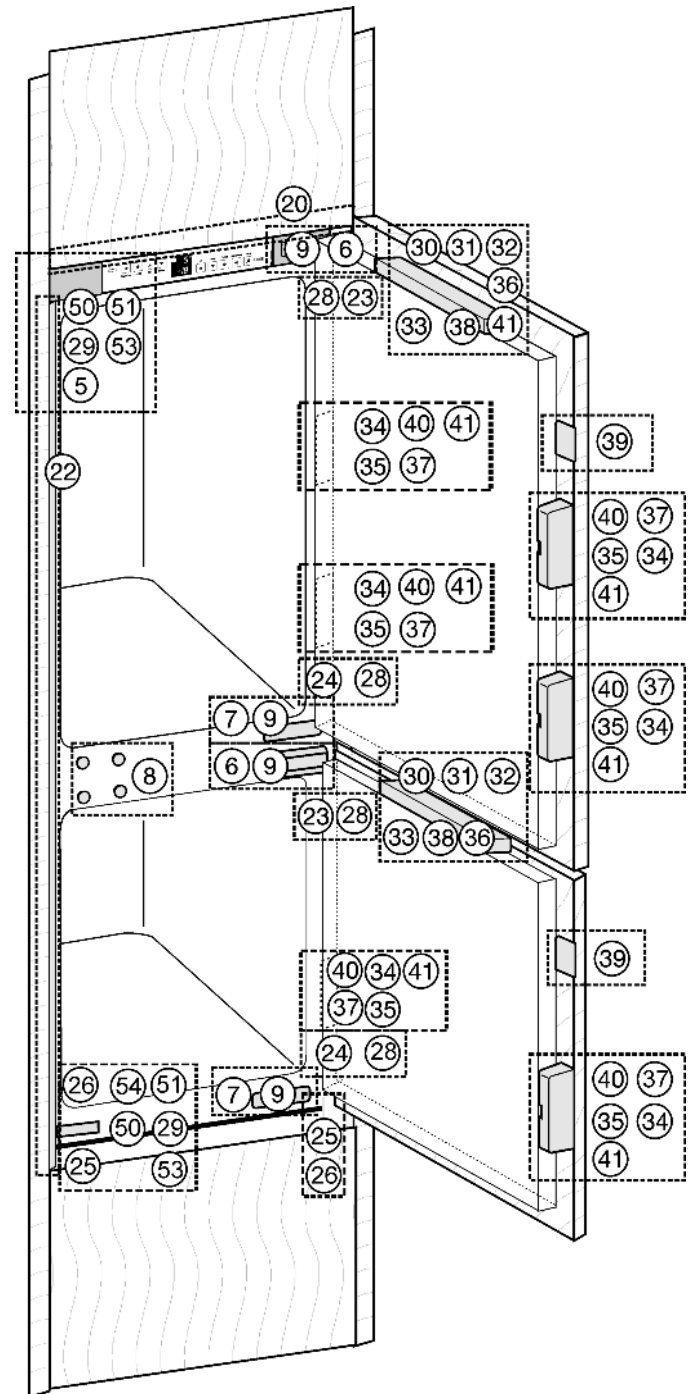
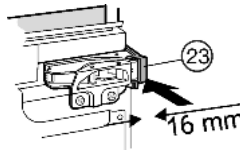
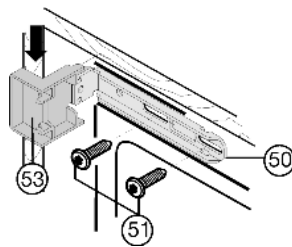
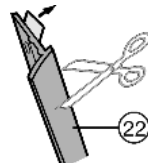

Fig. 8
Fig. 12
Fig. 13
Fig. 14
- ▶ Remove the covers Fig. 8 (5,6,7).
- ▶ Clip spacer *Fig. 12 (23)* onto the upper hinge and spacer *Fig. 8 (24)* onto the lower hinge.
- ▶ Attach the top cover *Fig. 13 (53)* and bottom cover *Fig. 13 (50)* to the mounting brackets.
- ▶ Fasten the mounting brackets *Fig. 13 (50)* at the top and bottom with screws *Fig. 13 (51)* so that the brackets can still be moved a little to the left and right.
- ▶ Strip the protective film off the cover trim *Fig. 14 (22)*. Apply the cover trim *Fig. 14 (22)* to the projection of the cover *Fig. 13 (53)* on the handle side, flush with the front, and adhesively affix it to the side wall of the appliance.
- ▶ If necessary, shorten the cover strip *Fig. 14 (22)* at the bottom: The cover strip *Fig. 14 (22)* has to end 3 mm above the upper edge of the lower mounting bracket *Fig. 8 (50)*.
- ▶ Slide in the appliance until the covers *Fig. 13 (53)* abut *Fig. 13* against the side wall of the kitchen unit.
- ▶ Allow for the extra distance (depth of the door stop components): Allow hinges and covers *Fig. 13 (53)* to protrude by the extra distance.
- ▶ Vertically align the appliance by means of the adjustable-height feet *Fig. 8 (25)*, using the accompanying open-ended spanner *Fig. 8 (26)*.